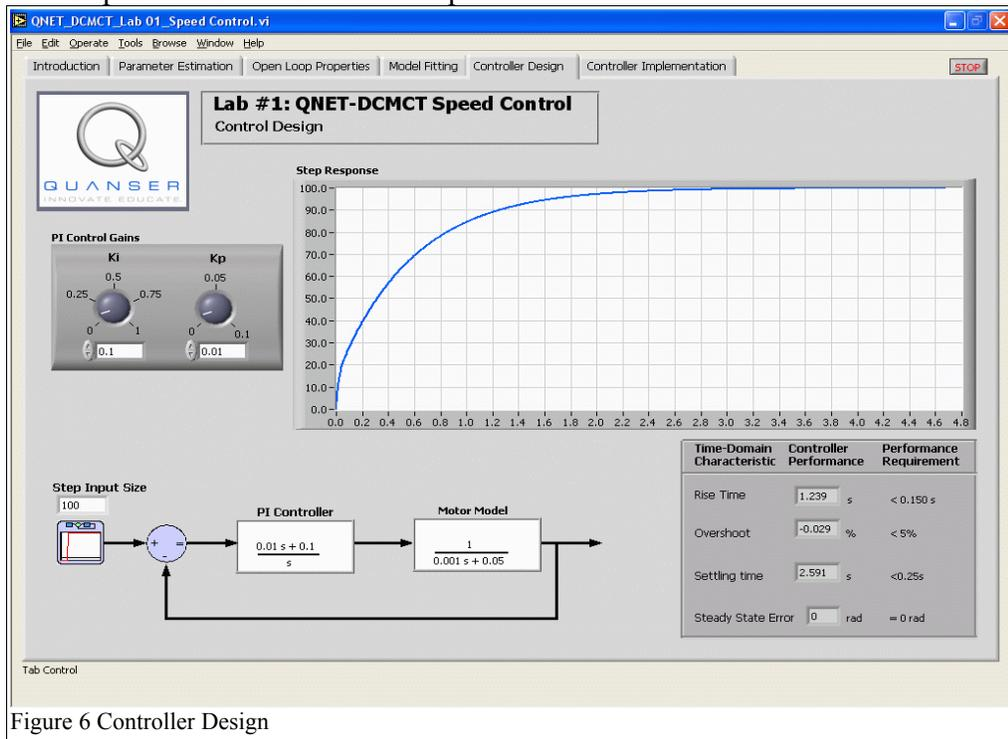

Figure 6 Controller Design
Step 21. The *Controller Design* tab should now be selected. As shown in Figure 6, the *Motor Model* block is the transfer function representing the open-loop system and the *PI Controller* block is the control system to be designed. Both blocks are in a negative feedback loop, hence making this system a closed loop control system. By default, the reference input signal is a step of a 100 deg/s . The control system should output a voltage to the motor that ensures the actual motor speed achieves the desired speed.
Step 22. The two control knobs in Figure 6 change the proportional gain, K_p , and the integral gain, K_i , of the controller. Vary the gains K_p and K_i as listed in Table 7 and record the resulting step response changes and *Controller Performance* changes.